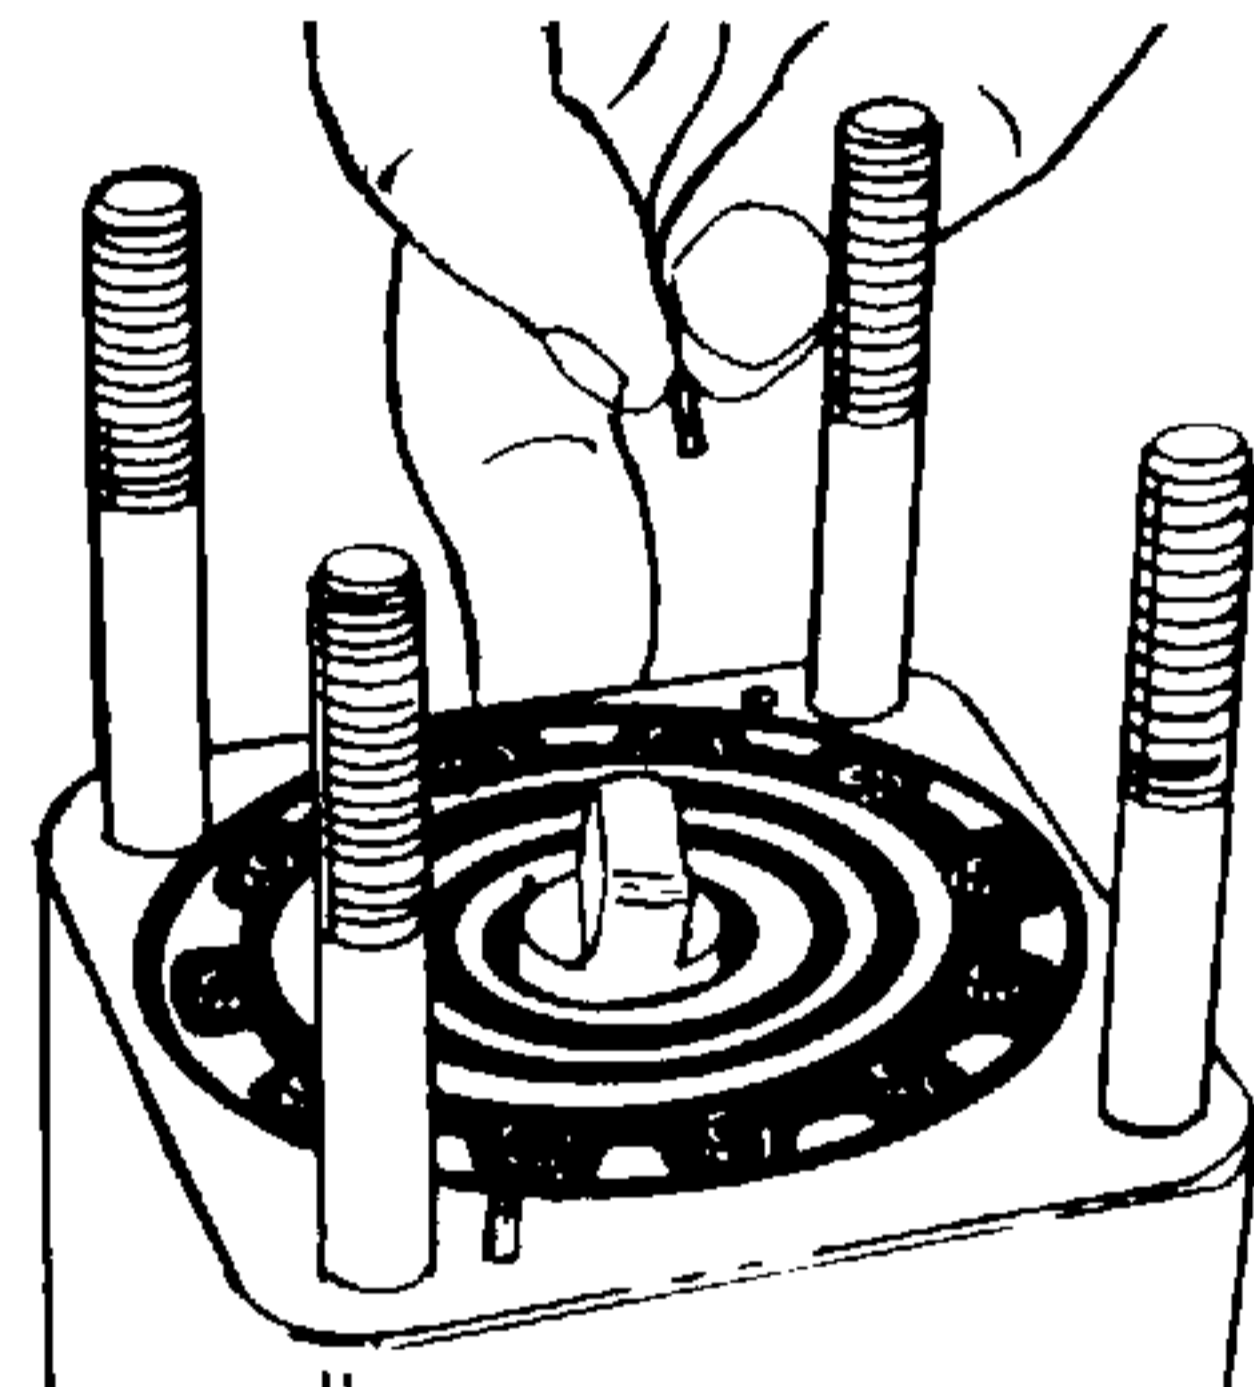

Figure 4-19. Removing Needle Rollers.
20. Remove the two isolation manifold-metering ring needle rollers (11). See Figure 4-19.